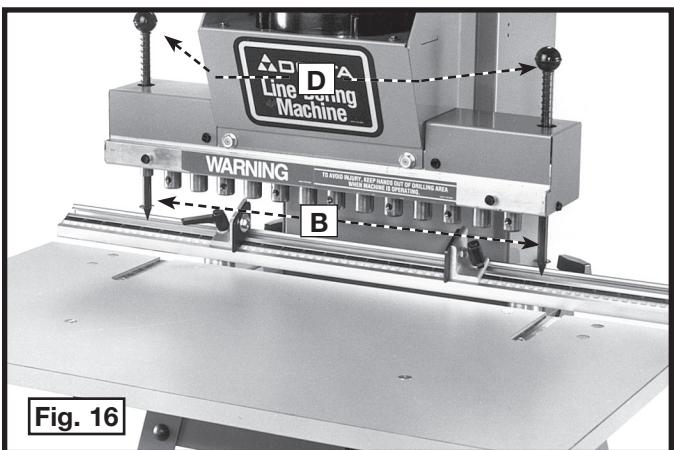

Fig. 16
3. Replace the knobs (D) Fig. 16 on top of the indexing pins (B).